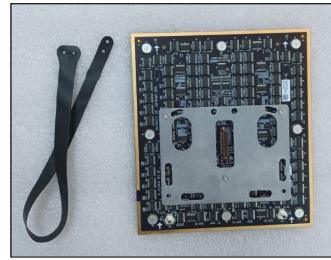

Figure 13: Tether and Module
1. Place the module face down on a soft surface, taking care not to damage the LEDs, and place a tether next to the module. Refer to **Figure 13**.